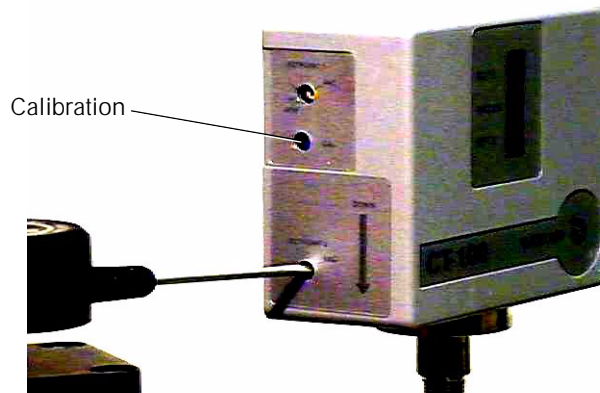

Figure 8 Adjusting the Calibration Potentiometer
6. Adjust the **CAL** screwdriver potentiometer as shown in Figure 8 until the voltmeter reads 8.255 VDC.
2. Adjust the **CAL** screwdriver potentiometer as shown in Figure 8 until the voltmeter reads 1.000 volts.